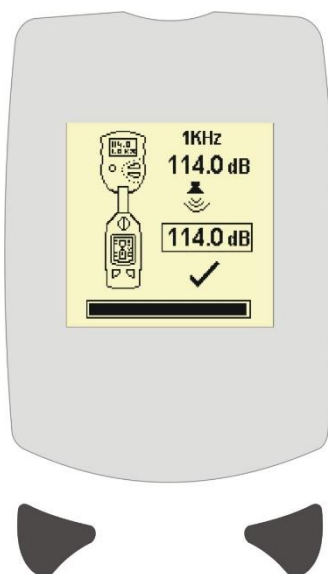

Figure 6 Calibration Complete Screen
5. Press left key (A) ✓ to perform a calibration, or press the right key (B) X to Exit. When calibration is complete, the Calibration Complete screen will be displayed (Refer to Figure 6).